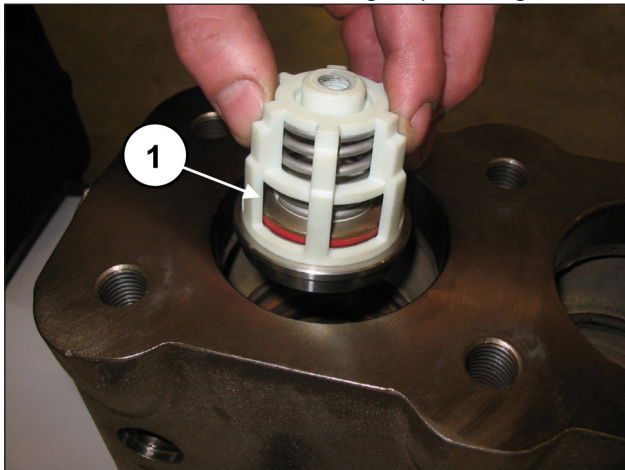
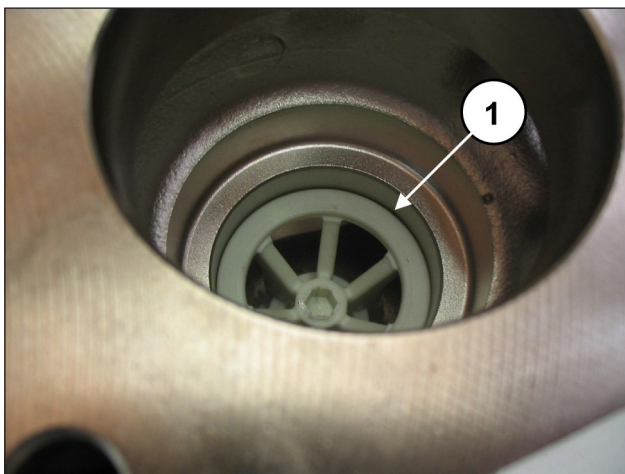

Fig. 94
Fig. 95
Insert the suction valve unit (pos. ①, Fig. 94) and then the spacer (pos. ①, Fig. 95).
The complete valve unit must be fully inserted into the bottom and should look like the image in pos. ①, Fig. 95.